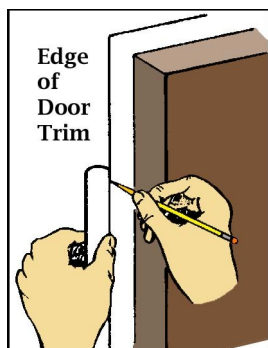

Figure 8
- **Step 13** Using the trim around a door as shown in Fig. 8, or a length of brass angle stock, extend the marks from Step 12 to create the alignment lines. The booster fins should extend 4" from the rear edge of the booster tube. The sustainer fins should extend 4" from the rear of the sustainer tube. The bottom of the launch lug standoff should be located 3" from the bottom edge of the sustainer tube, with the top of the lug 5.25" from the bottom edge. Apply a layer of thinned glue along these lines and set both tubes aside to dry.